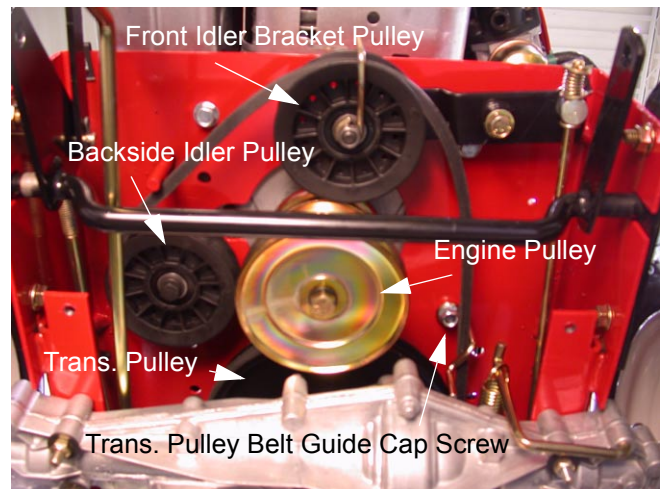

Figure 24
7.5. Use a 9/16 inch socket to loosen the locknut securing the pulley and belt guide to the front idler bracket. Remove the belt guide and pulley. See Figure 24.
- 7.6. Use a 9/16 inch socket to loosen the cap screw securing the transmission pulley belt guide to the frame and engine mount. Pivot the belt guide away from the pulley. See Figure 24.